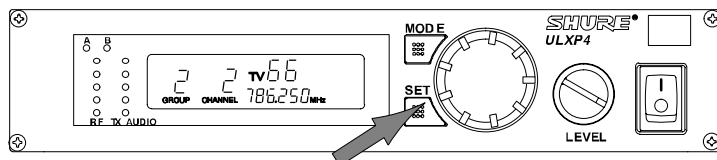

FIGURE 40
4. To tune the receiver to the new Group, press the SET button. An open Channel in this Group will automatically be scanned and saved in the background. The display will then return to the default mode, as shown in Figure 40. If you choose not to accept the receiver's recommended Group, rotate the control knob to the right to scroll through the list of scanned groups.